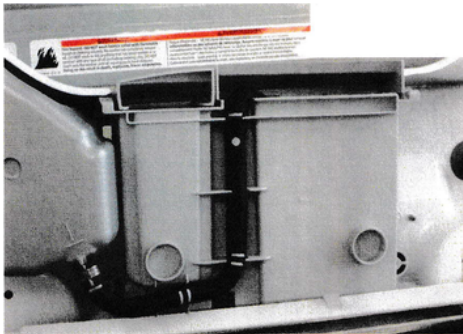

FIGURE 4
1. Before raising the top cover, if there is detergent in the bulk tank, reach under the dispenser box and feel for the rubber tube. Pull the tube downwards to disengage it from the dispenser box. *See Figure 4.*